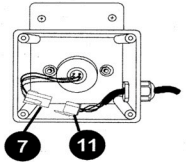

FIGURE 3
3. Disconnect UV bulb socket (7) from the power cord socket (11), Figure 3.